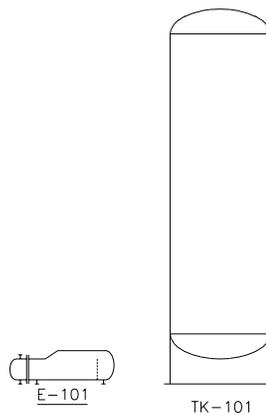

Figure 2-38 P&ID after placing the vessel and the heat exchanger
2. Enter 1.5 as the scale factor; the **Assign Tag** dialog box is displayed. Enter **101** in the **Number** edit box and make sure that the **Place annotation after assigning tag** check box is selected. Next, choose the **Assign** button and specify the position of the annotation tag near the vessel, as shown in Figure 2-38.
3. Choose the **TEMA type BKU Exchanger** from the **TEMA Type Exchangers** area in the **TOOL PALETTES - P&ID PIP** and place it at the point (7,5). Next, assign tag **E-101** to the heat exchanger. Figure 2-38 shows the P&ID after placing the vessel and the heat exchanger.